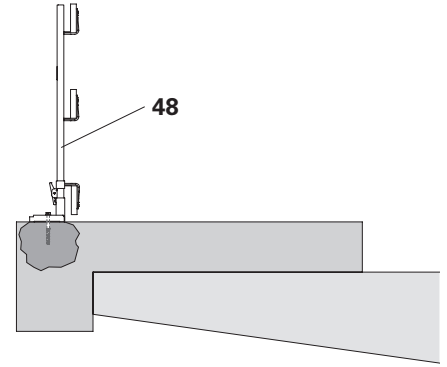

Fig. A2.08
1. Screw the Slab Foot PDF (49) into the installation position with a PERI Tie Bolt 14 x 150 (70).
2. Slide the Post PP (48) all the way into the Slab Foot PDF (49) until the latch engages.
3. Position guardrail boards (38) and secure, e.g. by means of wire pins or wood screws. (Fig. A2.08 + A2.09)